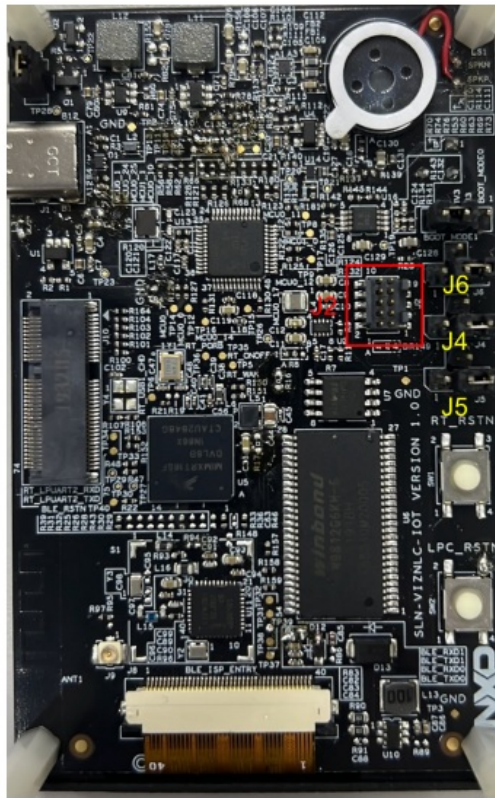

Figure 34. Attach J-Link debugger
2. Attach your J-Link debug probe into the J2 header as shown in Figure 34 and connect your J-Link to your computer via USB.